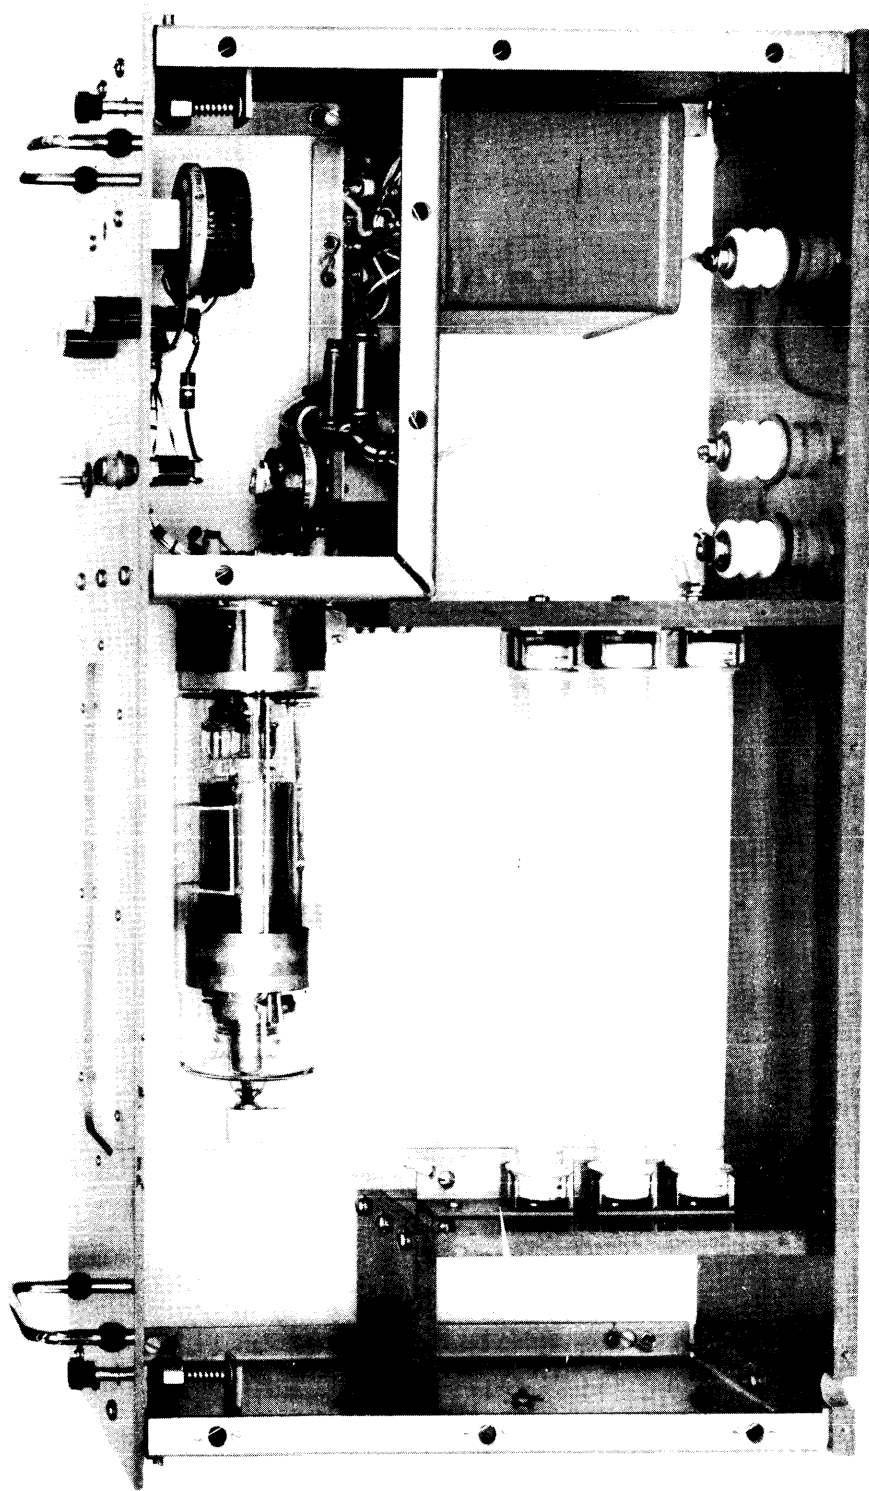

Figure 4-1-14. Top View, Crowbar Drawer, GPT-40K
k. **CROWBAR DRAWER.** (See figure 4-1-14.) - Figure 4-1-14 shows a top view of the crowbar drawer which contains a thyratron (type ML-1095), a filament transformer, and accessory electronic components. This tube acts to short B+ to B- under abnormal bias conditions on the PA(40K) tube.